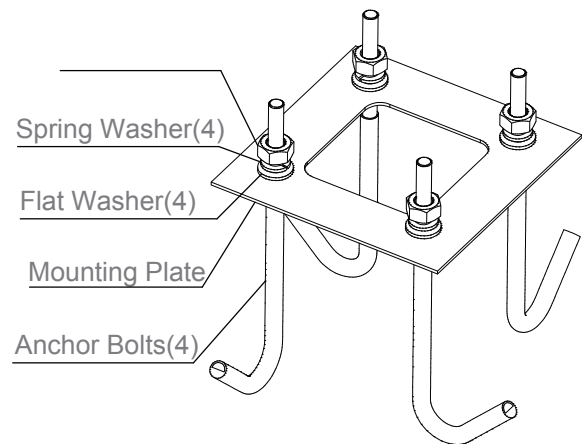

Figure1
5. Place the Bollard Base over Anchor Bolts (4) and tighten all the Nuts and Washers. See Figure 1.